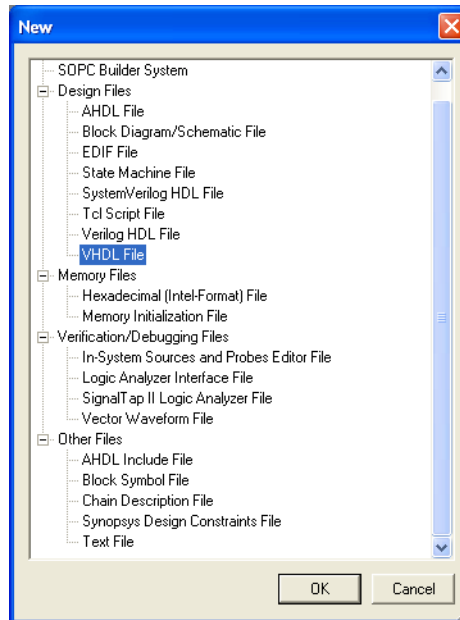

Figure 13: Choose to prepare a VHDL file.
1. Select **File > New** to get the window in Figure 13, choose **VHDL File**, and click **OK**. This opens the Text Editor window.